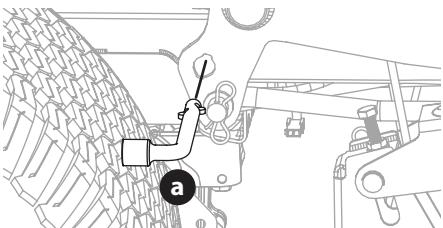

Figure 39
5. Use the deck lift pedal and deck lift knob to place the deck in the lowest position and use the multi-tool (a) to lock the deck lift components in place (Figure 39).